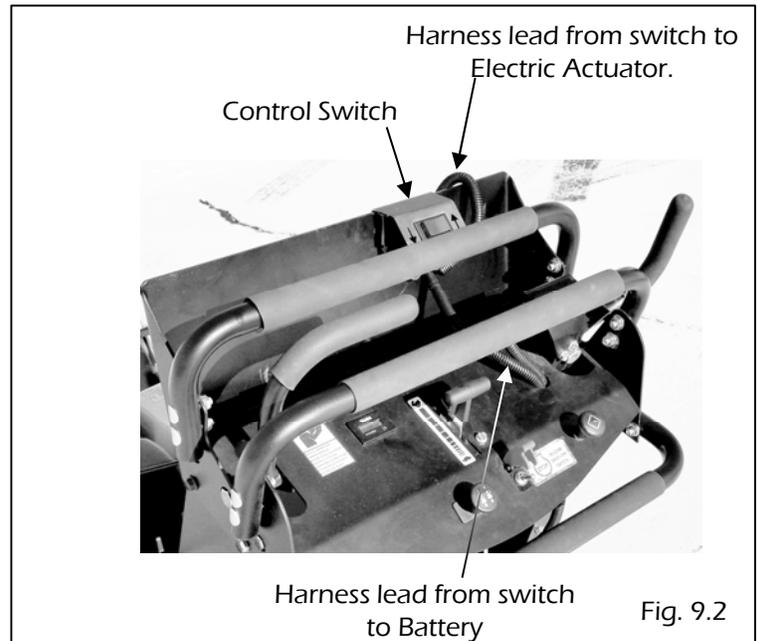

Fig. 9.2
3. Slide the CONTROL SWITCH over the edge of the tractor console and route the Battery wire harness lead with the 2-Pin molded connector thru the access hole in the console base located just above the engine choke control knob. (See FIG. 9.2)
8. To connect the Electric Actuator on the plow to the Control Switch first route the remaining lead from the control switch with the plastic connector over the console and along the right hand side of the engine OPPOSITE OF THE EXHAUST. Connect the plastic connector to the mating connector of Electric Actuator. (See FIG. 9.2 & 9.3)